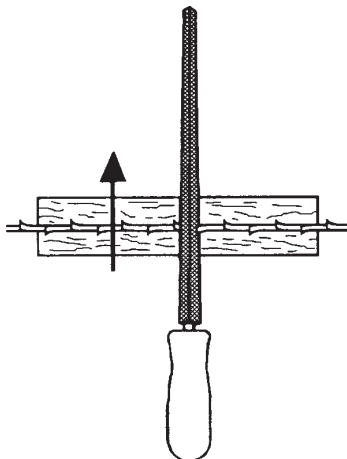

Fig. C-3
- Using a slim-taper triangular file, file straight across the teeth perpendicular to the blade. Tilt the file slightly to match the hook of the teeth. (See Fig C-3.) First, file the teeth that are set toward you, then reverse the blade and file the others. This will put the burr from the filing on the inside of the tooth, where it won't interfere with the cutting action. A blade filed from just one side may lead to the opposite side.